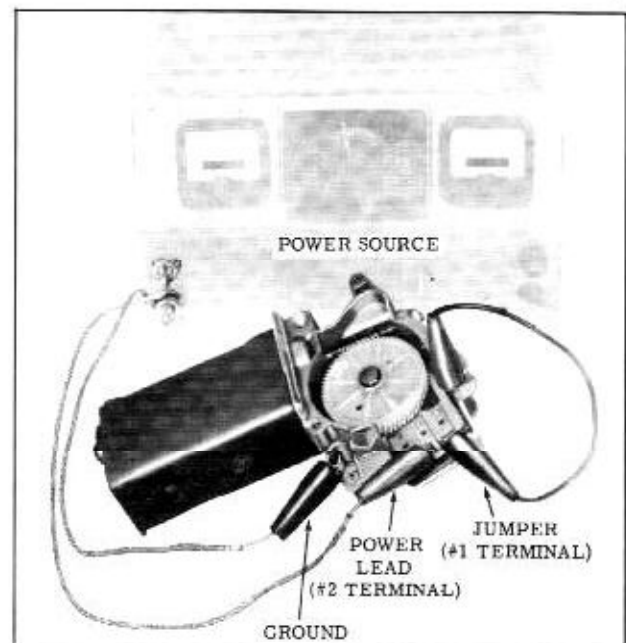

Fig. 13-124 Cycling Wiper Motor
6. Connect wiper as shown in Fig. 13-124 and cycle wiper.
7. Allow wiper to park by disconnecting the jumper wire. (Fig. 13-124) This step is necessary to insure that the wiper is in the park position when the crank arm is reassembled.